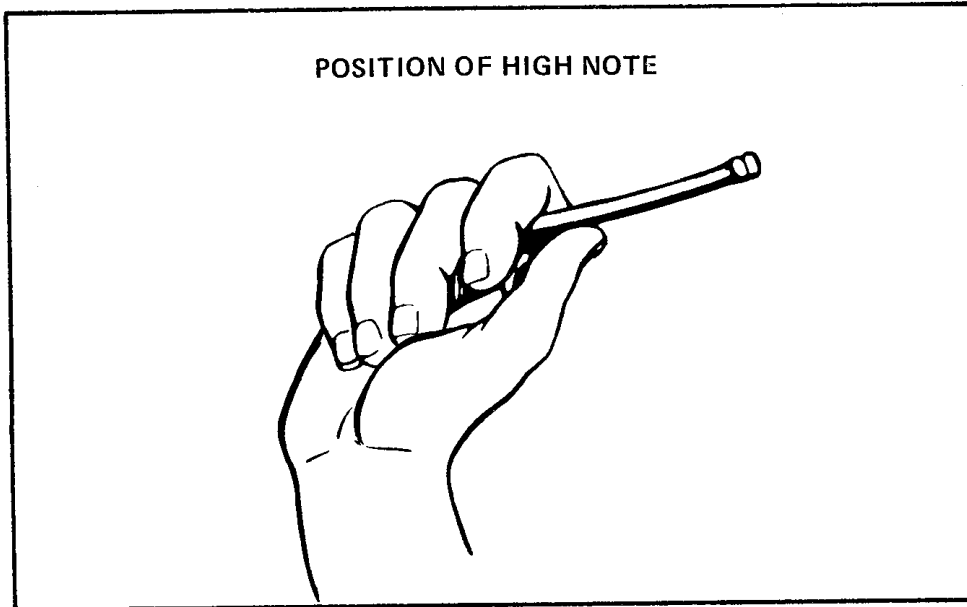

Figure 9-4 Position of High Note
8. **High Note** — The high note is sounded by blowing into the gun, and throttling the hole by closing the fingers. See Figure 9-4.